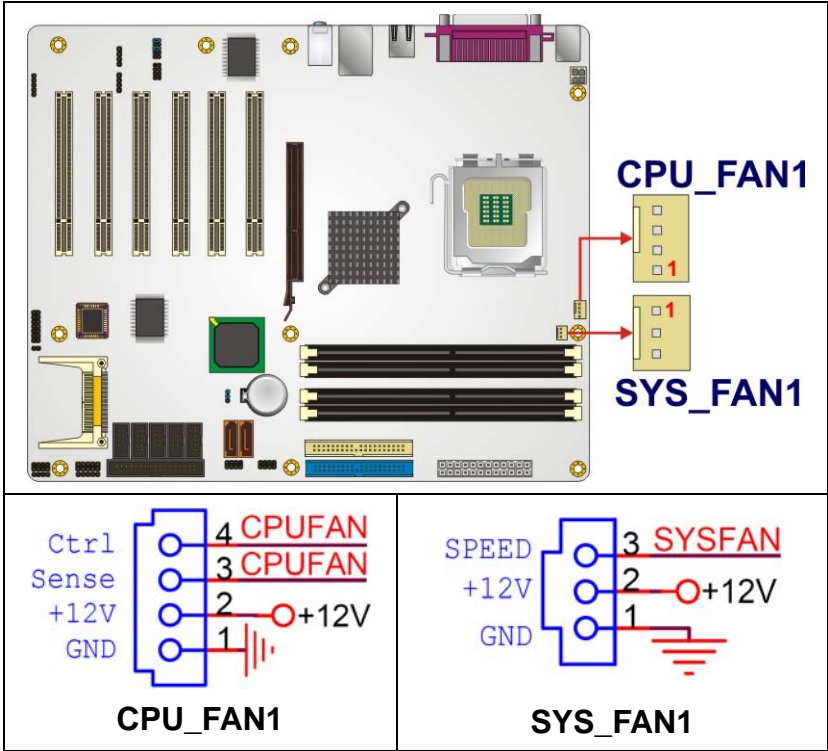

Figure 4-10: Fan Connectors Locations
- CN Location:** See **Figure 4-10**